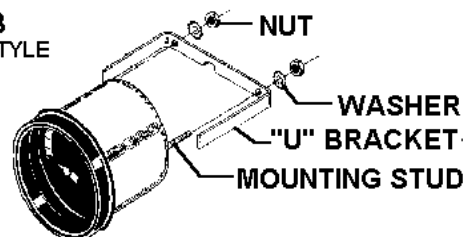
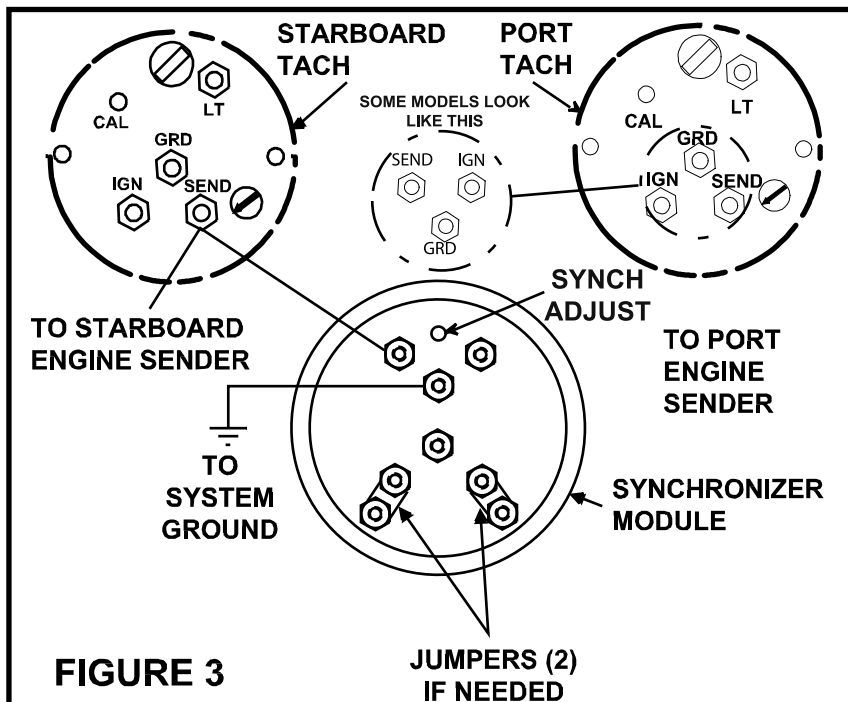

FIG.2A
FIGURE 3
1. Refer to Figure 2A through 2C and determine which style gauge you have. If you have the style shown in Fig. 2A, run a wire from "G" terminal of Gauge to "IGN" terminal of ignition switch.
4. Refer to Figure 3. Wiring shown will cause Gauge pointer (for types shown in Figures 2A and 2B) to move in direction of faster engine. Type shown in Figure 2C will move towards slower engine. If desired, this may be changed by reversing connections at Module.
The preferred method is to use a Module for each gauge. The alternative is to use one Module, and wire the Gauges in parallel - that is, IGN to IGN, PORT to PORT, STBD to STBD. In this case, the Jumpers (Figure 3) **MUST** remain in place.
2. The Gauge and Module are calibrated for extreme accuracy in detecting differences in engine speeds. In some cases, it may be necessary to decrease the sensitivity of the unit. Removal of the Jumper tabs (See Figure 3) on the Module will decrease sensitivity as shown on the Gauge. This means a greater difference of engine speeds will be required for an equal deflection of the Gauge pointer. If your application uses two Gauges from one Module, the Jumpers **must not be removed**.
3. In extremely rare cases, it may be necessary to calibrate the unit. Make sure both engines are running at the same speed. Temporarily remove the dust cover and insert a small bladed screwdriver in the calibration hole in the Module marked "SYNCH ADJUST" (See Figure 3). Rotate the adjustment screw in very small increments to change Gauge pointer deflection from either side of center. Do Not over-torque the adjustment or you will damage the Module.